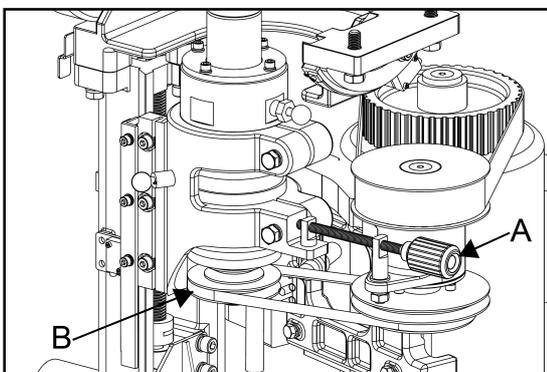

Fig.48
2. Release the knob (A), you can replace the belt (B), as Fig.48.